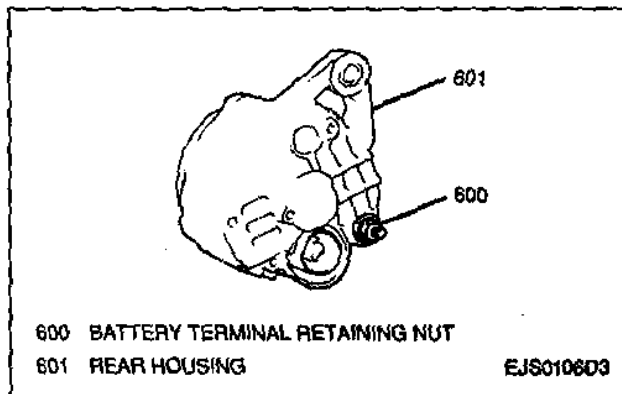

Figure 10—Battery Terminal Retaining Nut
11. Battery terminal retaining nut from rear housing (Figure 10).